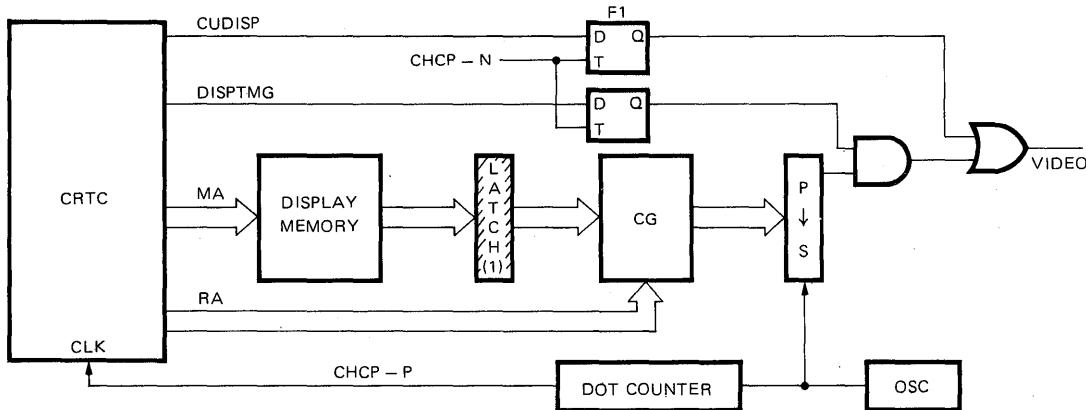
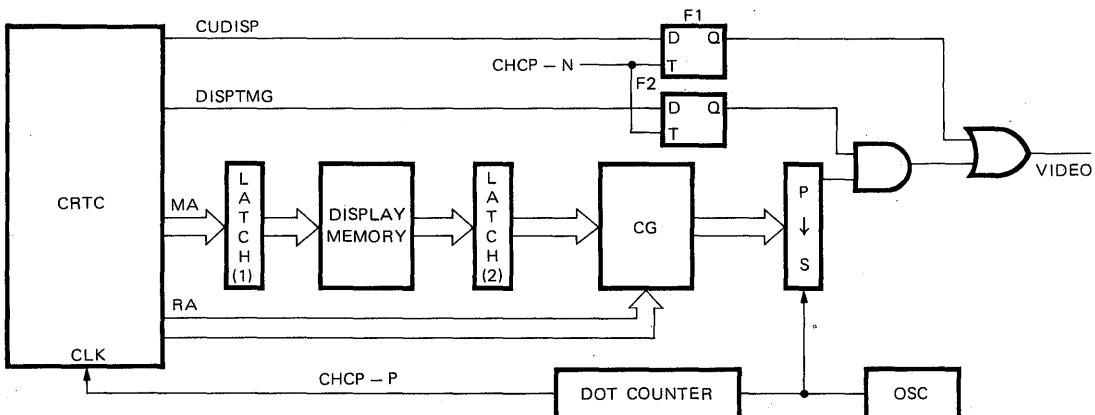
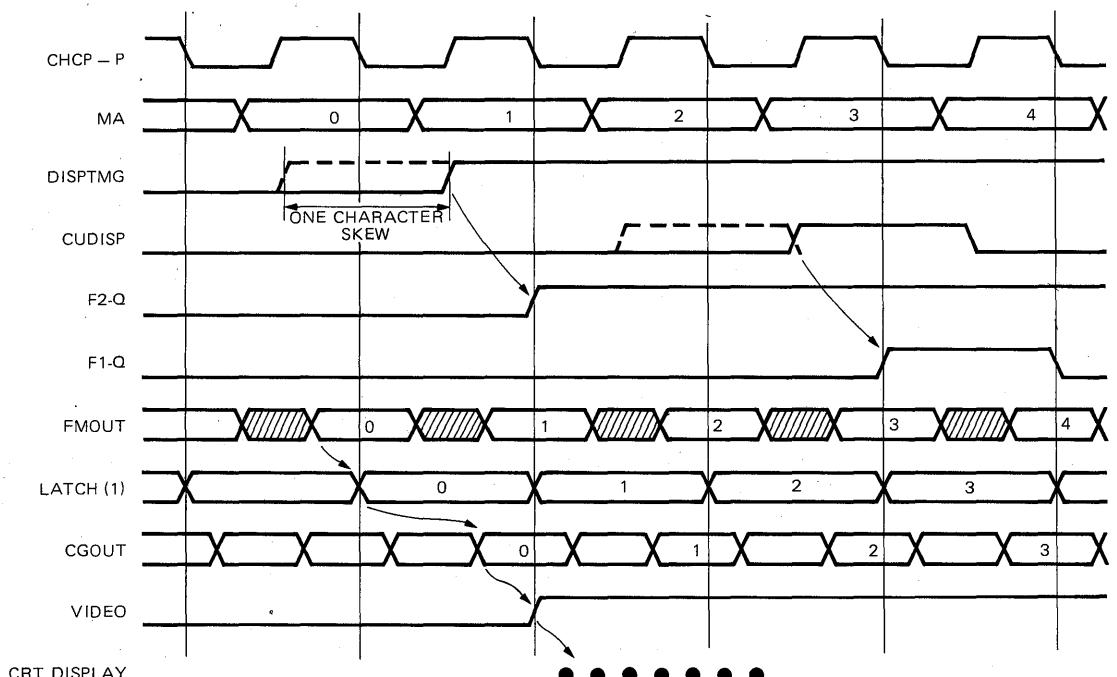

Figure 16. Display Control Unit (2)
Figure 17. Display Control Unit (For high-speed display operation) (3)
Figure 19. Time Chart of Display Control Unit (2)
When many characters are displayed in the horizontal direction on the screen and horizontal one-character time is so short that both display memory and CG cannot be accessed, the circuitry shown in Fig. 16 should be used. In this case, display memory output shall be latched and CG shall be accessed at the next cycle. The time chart in this case is shown in Fig. 19. CUDISP and DISPTMG signals should be provided after being delayed by one-character time by using skew bit of interlace & skew register (RS). Moreover, when there are some troubles about delay time of MA during horizontal one character time on high speed display operation, system shown in Fig. 17 should be adopted. The time chart in this case is shown in Fig. 20. Character video signal is delayed for two-character time because each MA output and display memory outputs are latched and are made to be in phase with CUDISP and DISPTMG signals by delaying for two-character time. Table 5 shows the circuitry selection standard of display units.